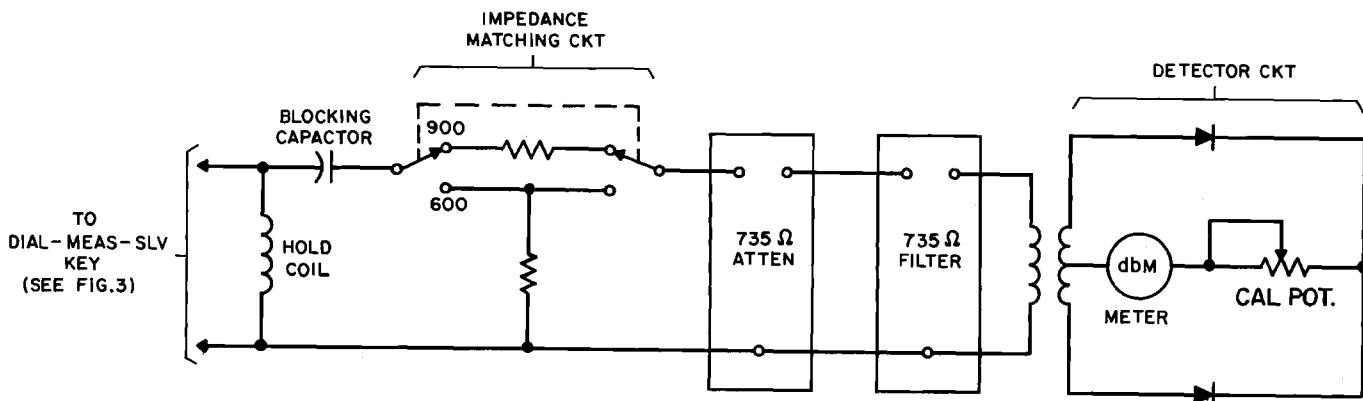

Fig. 2 – Simplified Schematic, 23A Transmission Measuring Set
3.01 The schematic of the 23A set may be separated into eight consecutive circuits or parts as follows: input, holding, blocking, impedance matching, attenuator, filter, detector, and meter. A simplified schematic of the circuit is shown in Fig. 2.